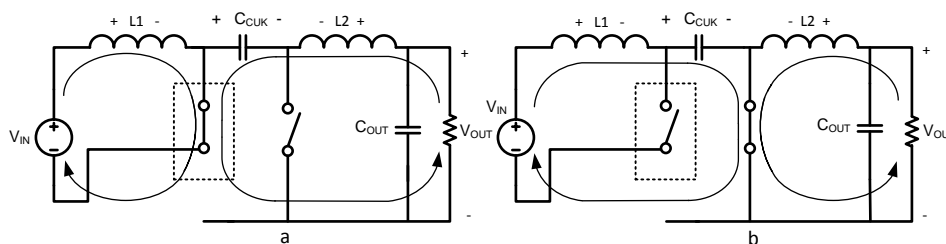
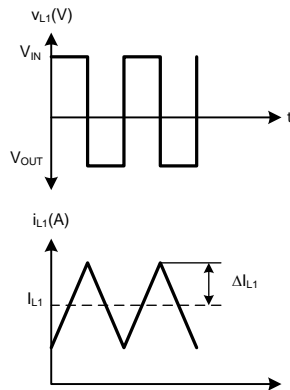
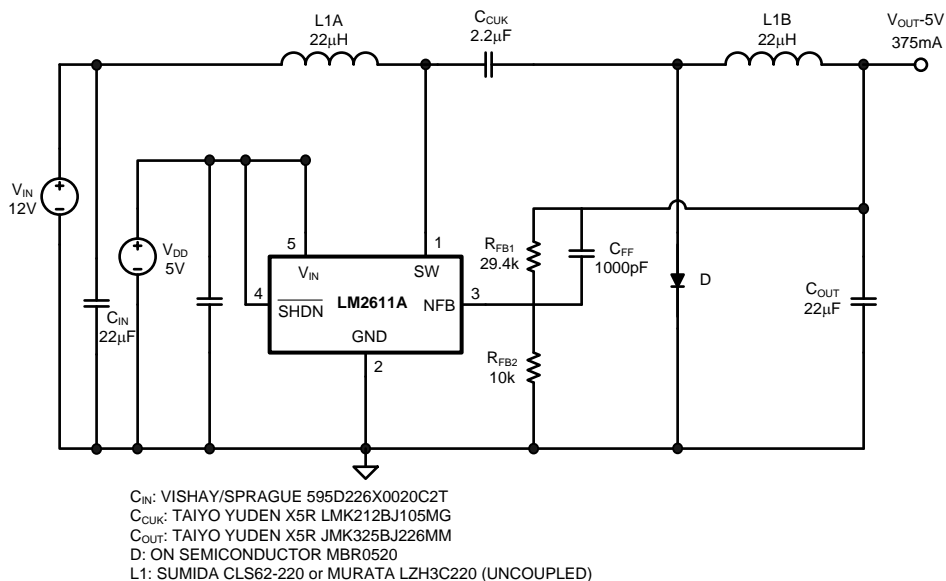

Figure 13. Operating Cycles of a Cuk Converter
Figure 14. Voltage and Current Waveforms in Inductor L1 of a Cuk Converter
Figure 15. Schematic of the Cuk Converter Using LM2611
The operating states of the Cuk converter are shown in Figure 13. During the first cycle, the transistor switch is closed and the diode is open. $L1$ is charged by the source and $L2$ is charged by C_{CUK} , while the output current is provided by $L2$. In the second cycle, $L1$ charges C_{CUK} and $L2$ discharges through the load. By applying the volt-second balance to either of the inductors, use Equation 1 to determine the relationship of V_{OUT} to the duty cycle (D).
Figure 14 and Figure 15 show the steady-state voltage and current waveforms for L1 and L2, respectively. Referring to Figure 13 (a), when the switch is closed, V_{IN} is applied across L1. In the next cycle, the switch opens and the diode becomes forward biased, and V_{OUT} is applied across L1 (the voltage across C_{CUK} is $V_{IN} - V_{OUT}$.)
The voltage and current waveforms of inductor L2 are shown in Figure 15. During the first cycle of operation, when the switch is closed, V_{IN} is applied across L2. When the switch opens, V_{OUT} is applied across L2.
Equation 2 to Equation 5 define the values given in Figure 14 and Figure 15:
The input current waveform to a Cuk converter is continuous and triangular, as shown in Figure 14. The input inductor insures that the input capacitor sees fairly low ripple currents. However, as the input inductor gets smaller, the input ripple goes up. The RMS current in the input capacitor is shown in Equation 7.
Like the input current, the output current is also continuous, triangular, and has low ripple (see I_{L2} in Figure 15). The output capacitor must be rated to handle its RMS current: